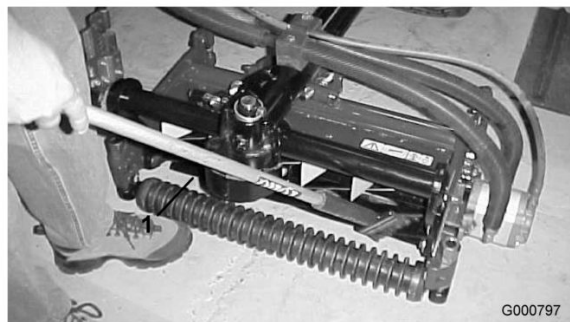

Figure 84
8. Apply lapping compound with a long handle brush (Toro Part No. 29-9100). Never use a short handled brush (Figure 84).